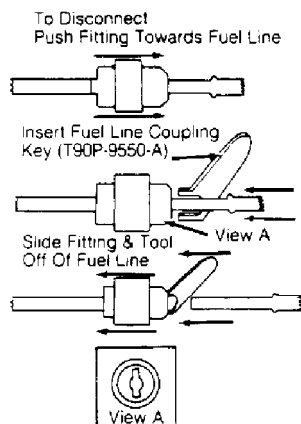

Fig. 25: Exploded View Of Fuel Supply Manifold Assembly (Navajo)
2) Disconnect fuel supply line from fuel supply manifold. See FUEL LINE CONNECTORS (NAVAJO). Disconnect fuel return line from fuel pressure regulator. Remove fuel supply manifold. See Fig. 25. Disconnect injector electrical connectors and retaining clips. Remove injectors from fuel supply manifold.